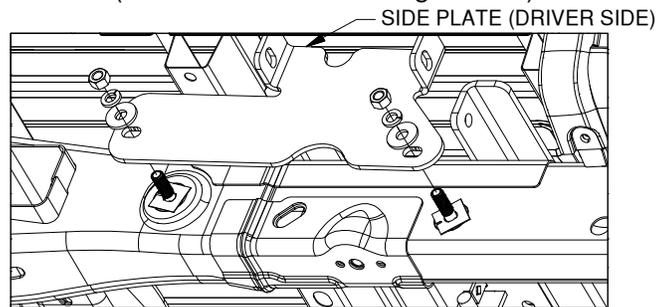

Figure C4: View of driver side wheel well.
- 3. Install side plates.** Each side plate (driver and passenger side) will install over the carriage bolts previously placed into the frame. Slowly guide the side plate over the carriage bolts and between the cross members. Attach each plate (driver side shown below) with two 1/2" washers, 1/2" lock washers and 1/2" finish nuts, see Figure C4. Do not fully tighten at this time. (Bolts should be hand tightened.)